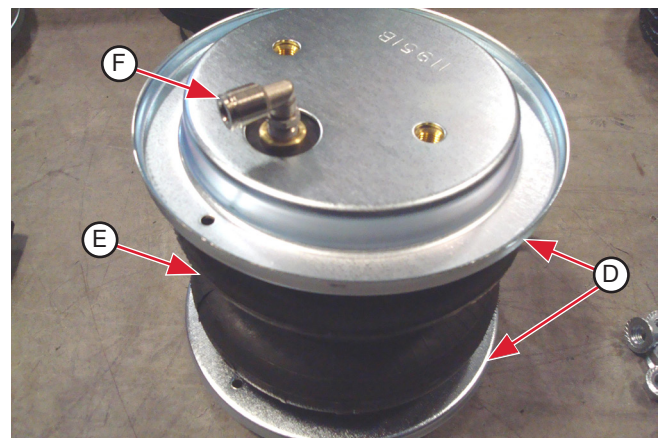

Fig. 11
1. Place the roll plates (D) on the air springs (E) (Fig. 11). Install the swivel elbow air fittings (F) onto the air springs. Tighten the air fittings finger tight plus 1 1/2 turns.